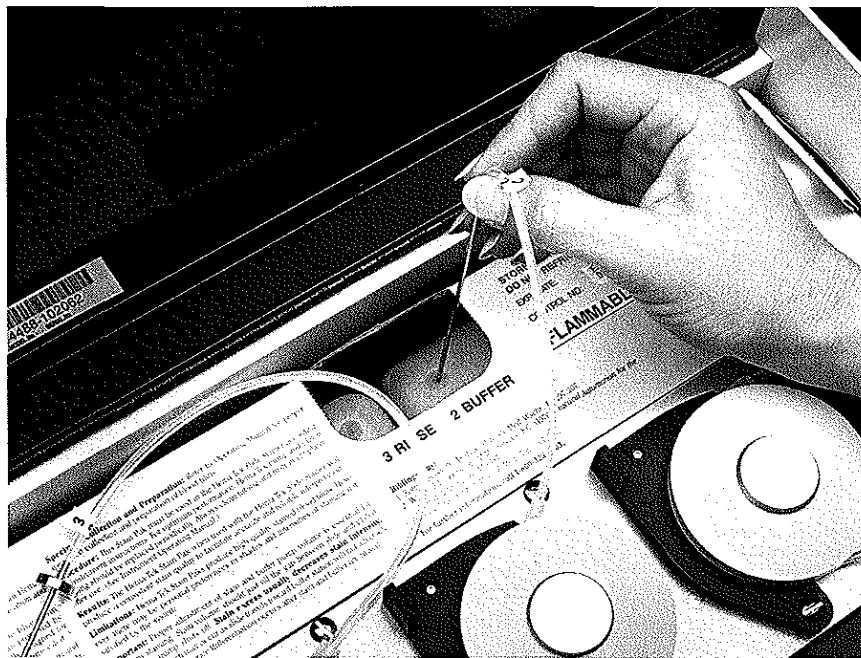

Figure 2-6
- b. Insert the appropriate cannula into its respective bottle by puncturing the center of the indentation on the bottle (Figure 2-6). Remove the cannula, turn it ¼ turn, and insert it again into the same puncture. The double puncture creates a slightly larger hole for venting. Push the cannula down until the guard at the top touches the plastic container. Repeat for each bottle.